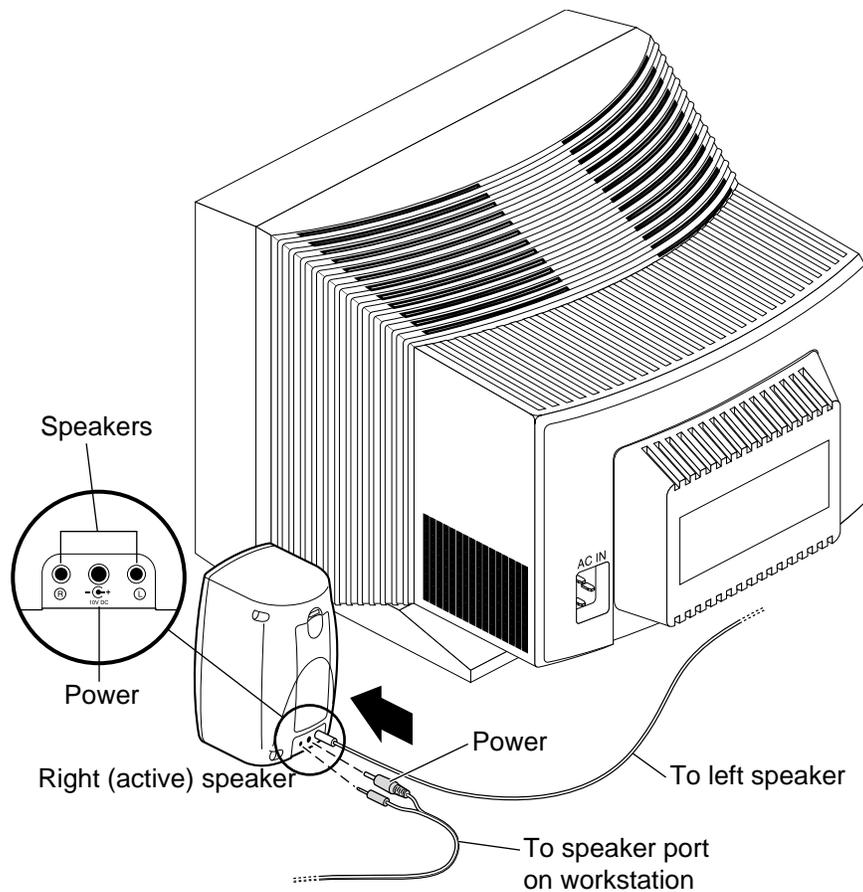

Figure 1-8 Attaching the Speaker and Power Cable to the Active Speaker
5. Connect the speaker/workstation cables (the cable with two connectors on each end) to the active speaker, as shown in Figure 1-8.